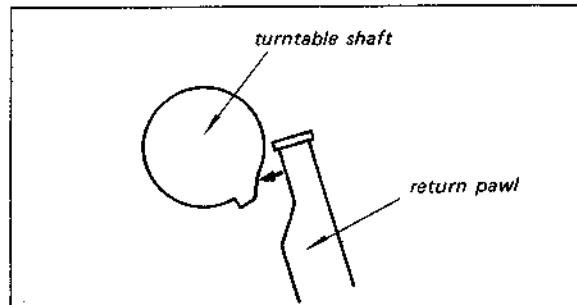

Fig. 3-16. Automatic return operation check (1)
1. Set the turntable shaft as shown in Fig. 3-16.
2. Move the return pawl as far as it will go in the arrow direction shown in Fig. 3-16.